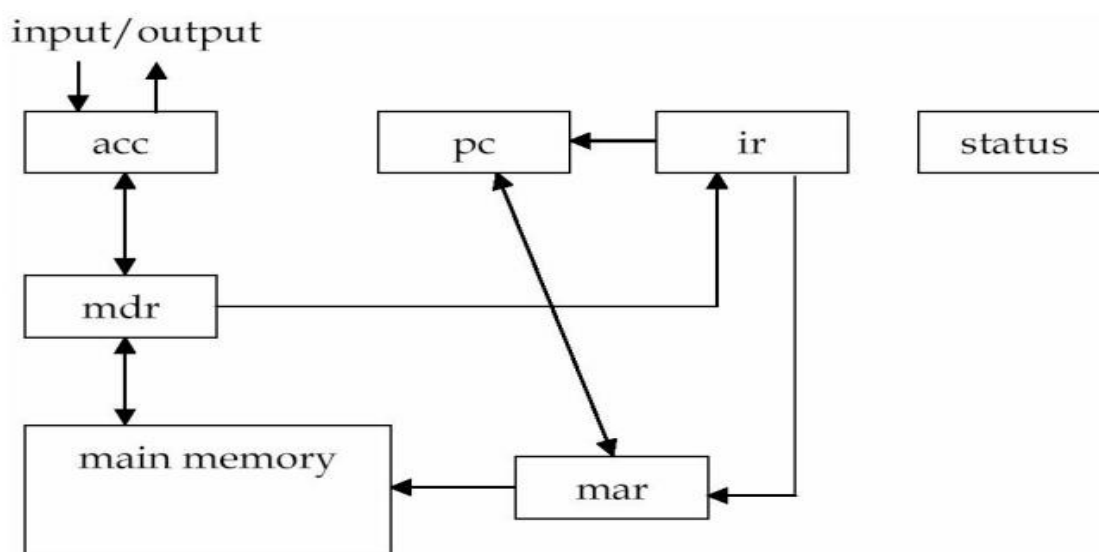
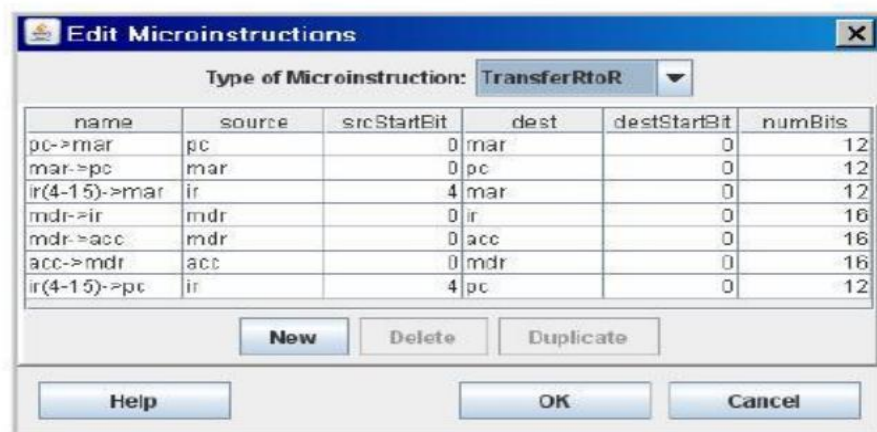

Figure 1: Diagram of data movement in the Wombat1.
Figure 3: The dialog for editing microinstructions.
You will construct a hypothetical machine, name it group (where n integer no. from 1-4), with the basic structure shown in Figure 1 (The arrows in the figure indicate the movement of data by the microinstructions).
- 7 transfer (Register to Register) The 7 transfer microinstructions are displayed by arrows between the registers in Figure 1 and show how to implement in figure 3.
2. Choose "TransferRtoR" in the popup menu at the top of the dialog that appears (see Figure3).
5. Create the remaining 6 transfer microinstructions in your machine by adding new microinstructions in the same manner (see Figure 3)